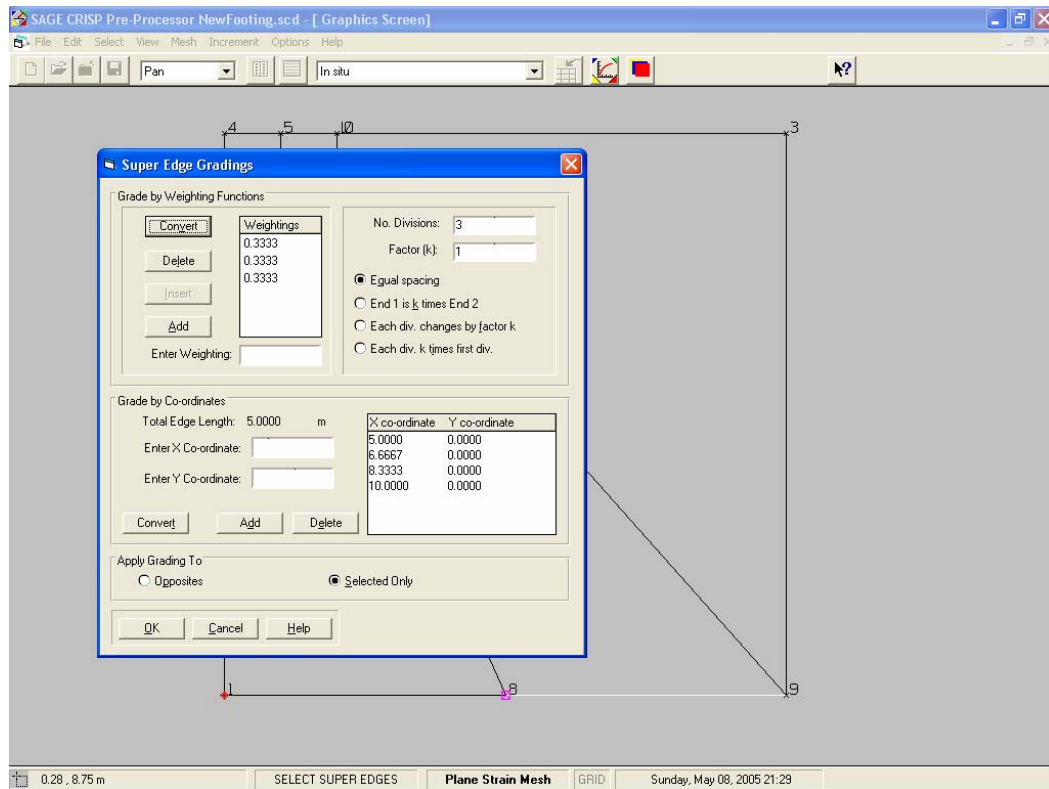

Figure 18 Defining Edge Gradings on bottom side
- Step 36** Enter '3' into the **Number of Divisions** text box and click on the **Equal Spacing**. option. Weighting values will be automatically entered and the dialogue box should now look like Figure 18.